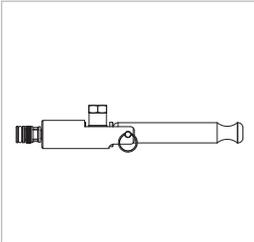

Figure 3
- ▶ Move the clamping lever (Pos. 2) to the straight starting position (*Figure 3*).